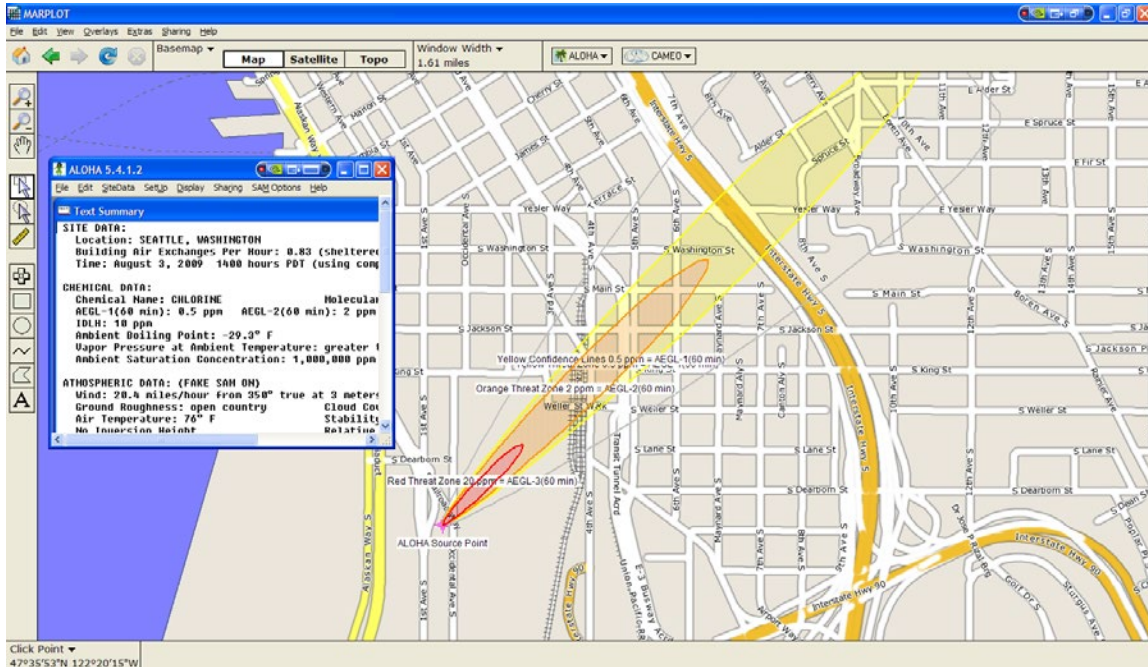

Figure 12 - ALOHA® with MARPLOT® Map
10. Select the [Sharing] drop-down menu to plot the plume onto a MARPLOT® (or other) map. As weather conditions change, the plume size and position will change on the map, shortly after the WEATHERPAK® provides updated data. Note: MARPLOT® software requires that the ALOHA® window overlay the map window in order for the map-plume to update automatically. (See Figure 12.)